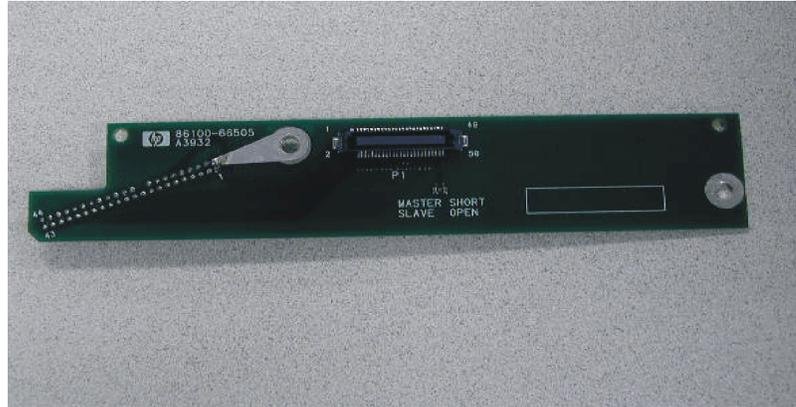

Figure 4-15. A16 LS-120 Board shown with Added Ground Strap
- 5 Put the new A16 LS-120 board (86100-66505) on the back of the A10 Floppy Drive. Refer to Figure 4-15.